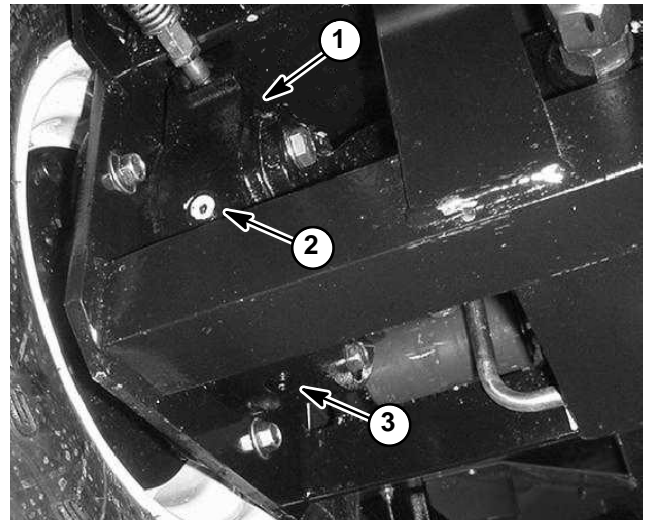

Figure 8
6. Make sure drain plug is installed in bottom of brake assembly (Fig. 8). Fill planetary wheel drive/brake assembly with SAE 85W-140 gear lube. Capacity is approximately 16 fl. oz. (0.47 liters) per wheel.